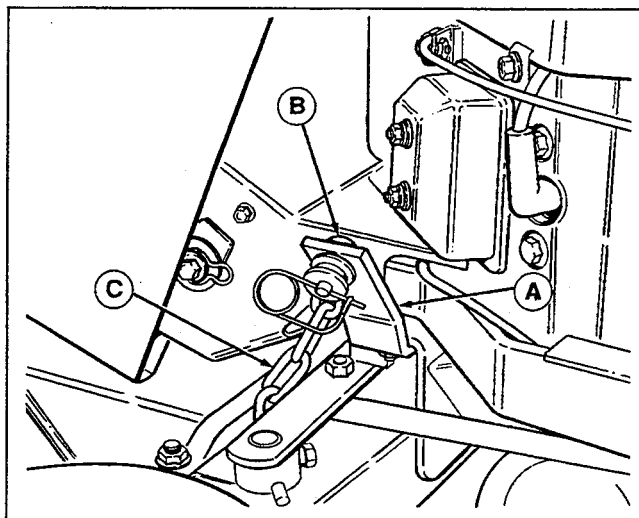
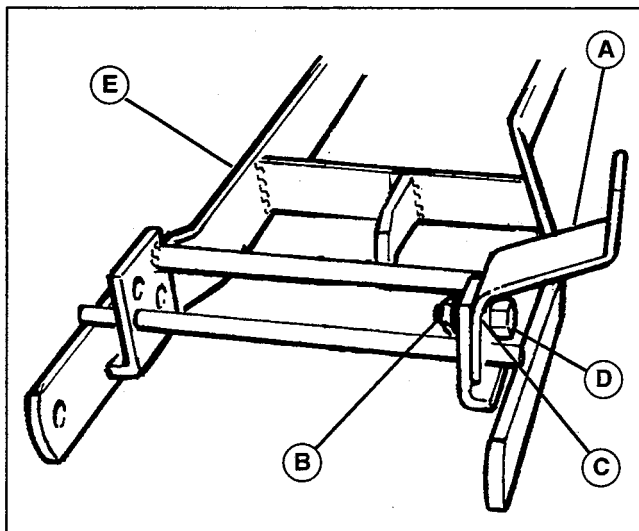

Figure 6. Spring Assist Bracket
Figure 7. Spring Assist Bracket
NOTE: On single cylinder tractors, clevis pin (B, Figure 6) must be installed to bracket before mounting bracket on tractor frame.
NOTE: Spring-assist bracket (A, Figure 6) does not need to be installed on units with electric lift.
7. See Figure 6. Install the spring-assist bracket (A) to tractor frame (bracket is mounted underneath frame). Secure with capscrew (from top), lock-washer, and nut. Place clevis pin (B) through bracket and install flat washer, chain (C), flat washer, and safety clip.
8. See Figure 7. Assemble the spring-assist bracket (A) to the hitch assembly (E). Secure with cap-screw, lockwasher, and nut.
9. See Figure 7. Insert spring assist clevis pin through inside of spring-assist bracket (A), and secure spring assist chain using flat washers and safety clip in same manner as shown in Figure 6.